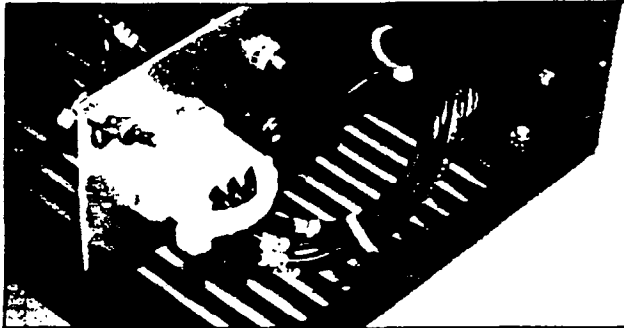

FIGURE 11—WIRE HARNESS IN MPSA
02.16 Locate the multi-wire harness in MPSA (Figure 11), it terminates in a nylon connector.